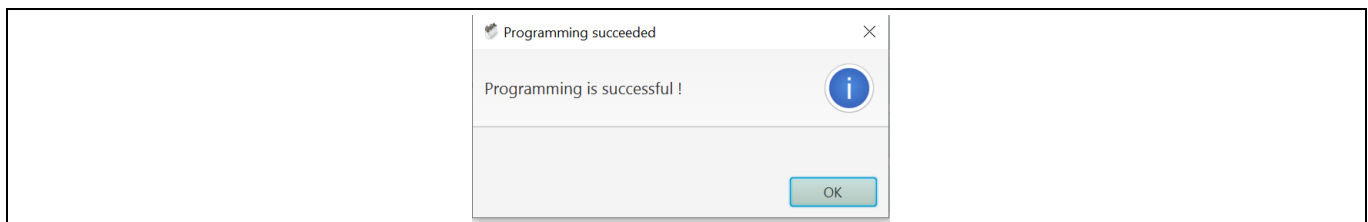

Figure 19 Notification about successful programming
3. Click **Select File** to select the hex file on your PC (see Section 2.3.3) and click **Program**. When the programming completes successfully, a message is displayed as shown in Figure 19.